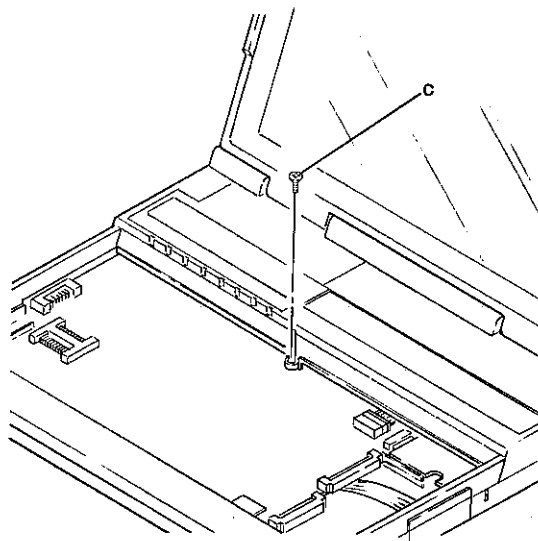

Fig. 2-3
- 2) Remove screw which are fixing the upper cabinet and the main P.W.B. (Fig. 2-3) (Screw: c)